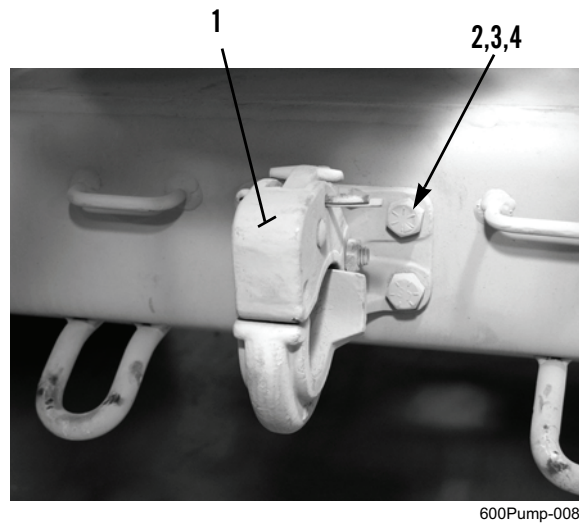

Figure 1. Pintle Hook Assembly.
1. Remove four locknuts (Figure 1, Item 2), washers (Figure 1, Item 3), capscrews (Figure 1, Item 4), and pintle hook assembly (Figure 1, Item 1) from rear of trailer. Discard locknuts.
2. Install pintle hook assembly (Figure 1, Item 1) on rear of trailer with four capscrews (Figure 1, Item 4), washers (Figure 1, Item 3), and new locknuts (Figure 1, Item 2).